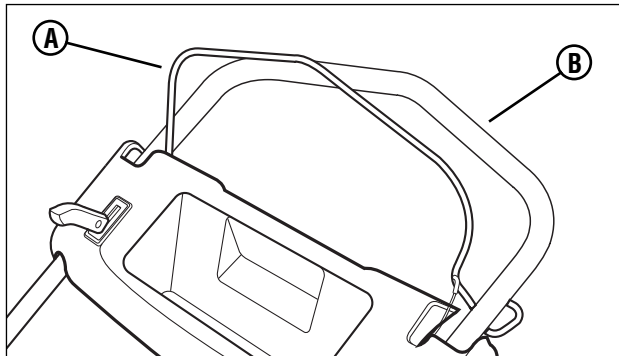

Figure 1: Mower controls
2. Check the blade control (**A**, **Figure 1**) and drive handle (**B**) to insure they work freely.